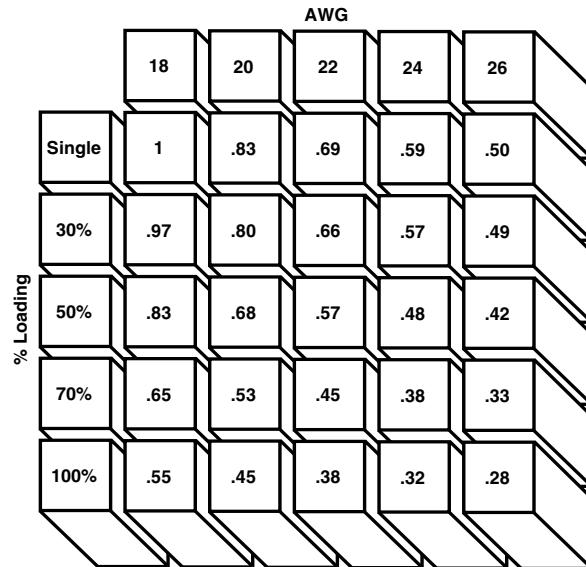

Figure 2 Rating factors allow the base current to be adjusted for various connector loading and wire sizes.
- Next are rating factors, a table of multipliers to account for connector loading and for smaller wire sizes (See figure 2). The designer first determines the base current for the ambient conditions of the application; then multiplies this base current by the rating factors to find the current level for the application's loading factor and wire size.
- Figure 2, the rating factor for 50% loading and 20 AWG [0.6mm2] wire is 0.68.